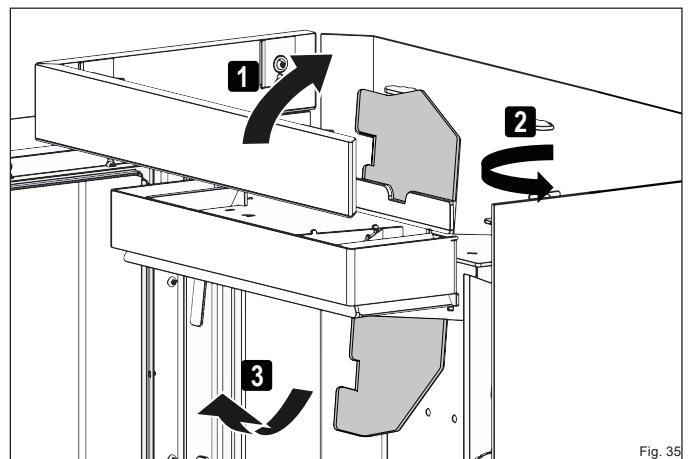

Fig. 35
- ▶ Remove the baffle plate through the back opening (Fig. 35).